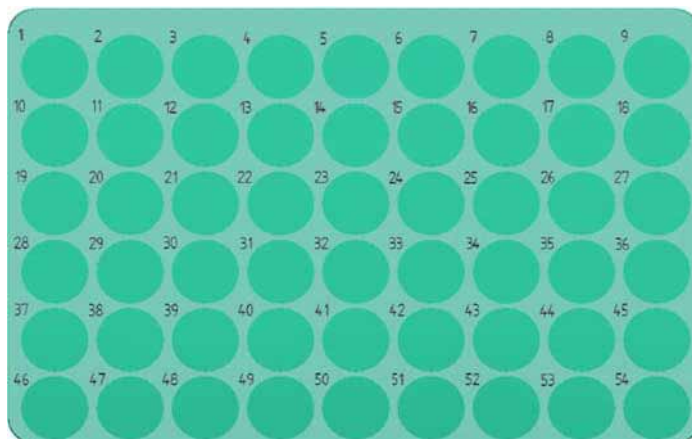

Fig. 43: Positions on the sample tray (here VT54)
1. Verify that vials are available in the corner positions of the tray (that is positions 1, 9, and 54 on a sample tray with 54 positions (→ Fig. 43, page 64)).
1. Verify that a vial is available at position 1 on a sample tray with 54 positions (→ Fig. 43, page 64).